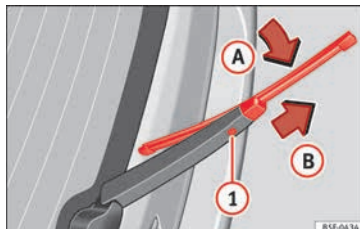

Fig. 82 Changing the rear wiper blade
- Turn the blade slightly » **Fig. 82** (arrow ⓘ).